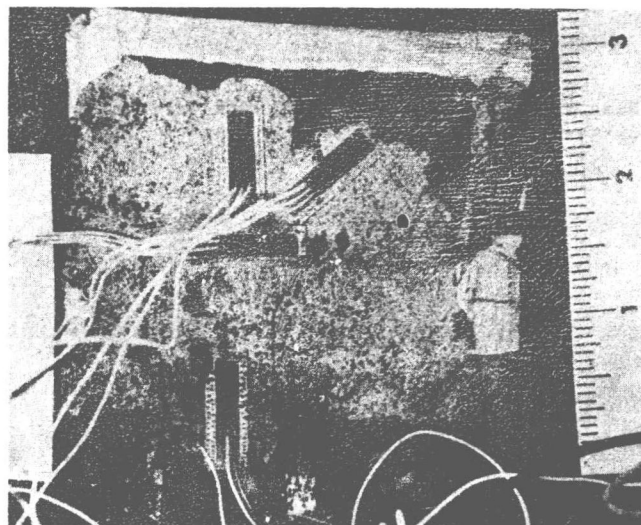
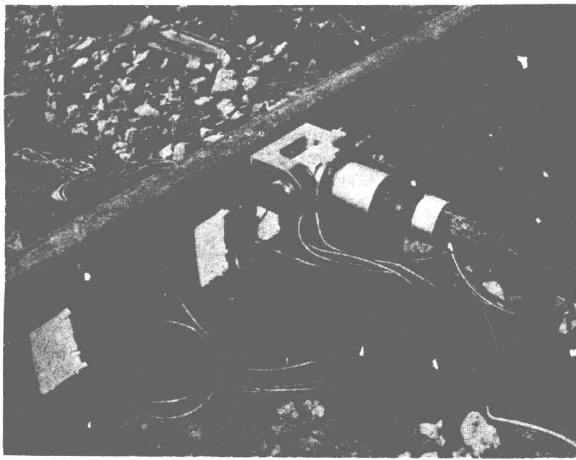

Fig. 1 - Early Micro-Measurements gages
Fig. 2 - Standard Ailtech gage installation, 1976
Since the summer of 1975, various tests have been conducted at the Transportation Test Center (TTC) which required strain gaging the rail to measure wheel lateral and vertical forces. A test in December 1975 used Micro-Measurements (MM) weldable gages with the leads attached in the field. (Fig 1). The gages worked, but installing them in December with blowing wind and snow was very difficult and uncomfortable. In June 1976, Battelle Columbus Laboratories installed 60 Ailtech weldable, waterproof, integral lead gages on tangent track (Fig 2). These gages worked satisfactorily and were much easier to install. In August 1976, the Facility for Accelerated Service Testing (FAST) program required 136 gages to be installed on the rail to measure lateral and vertical forces. Because the Ailtech weldable gages were easy to install, they were placed on the FAST Track, mostly in 5° curves.